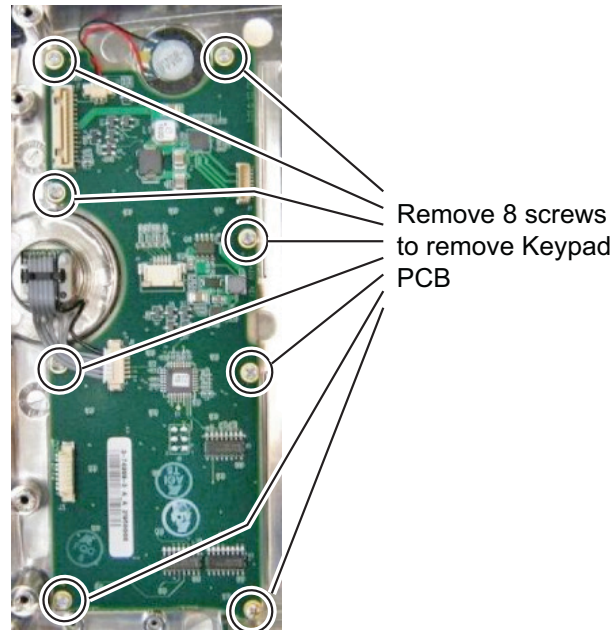

Figure 5-12. Keypad PCB
5. Remove the 8 screws securing the Keypad PCB to the front panel and carefully lift it out. The rubber Keypad Membrane is located under the Keypad PCB (Figure 5-12).